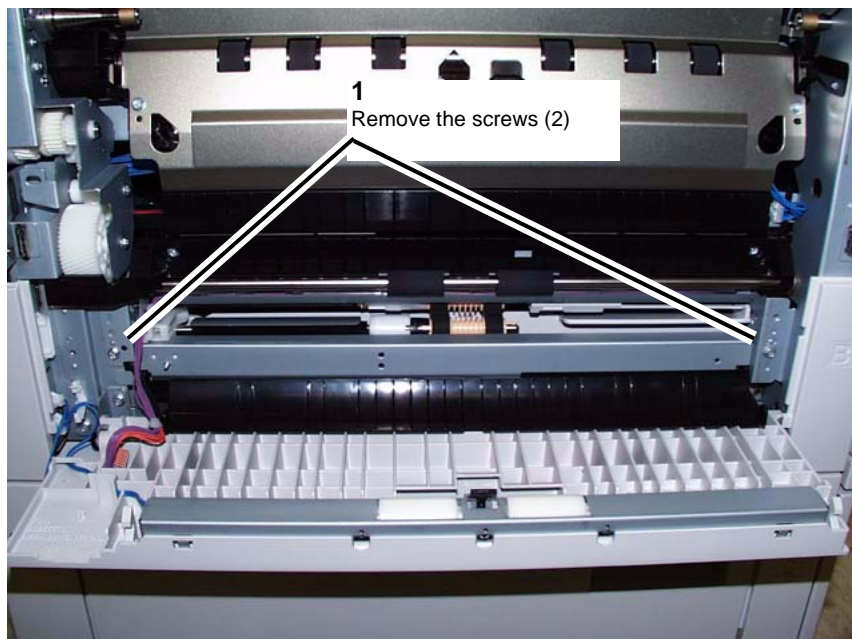

Figure 3 Preparing to remove the Tray 1 Feeder
- a. Remove the screws (2). (Figure 3)